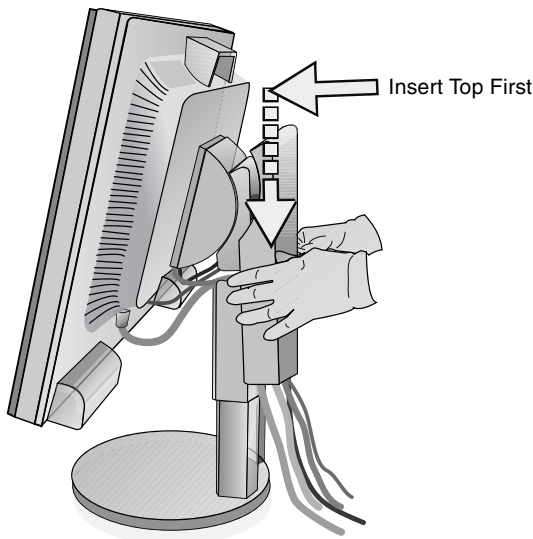
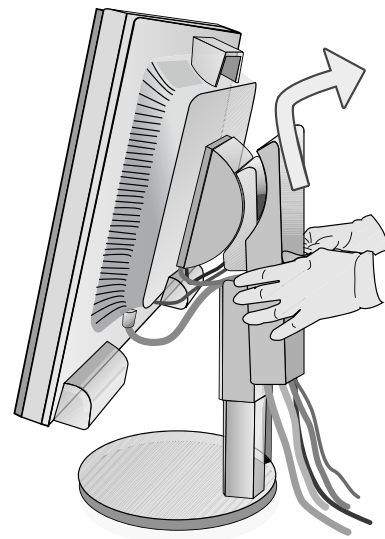

Figure D.1
Figure D.2
- 7. Hold all cables firmly and place the cable cover onto the stand (**Figure D.1**). To remove the cable cover, lift the cover off as shown in **Figure D.2**.